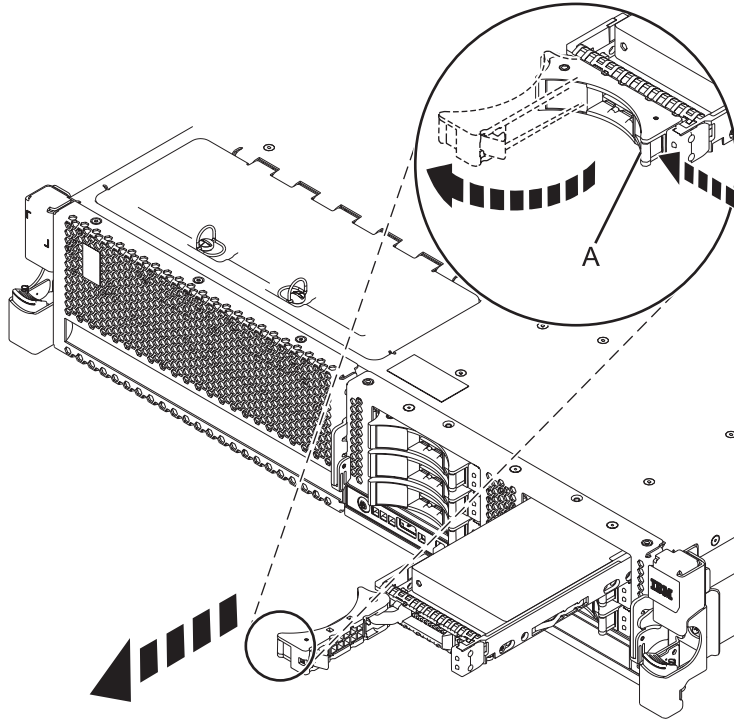

Figure 39. Removing a disk drive from the system
1. Unlock the disk drive or solid-state drive handle by squeezing it and pulling it out toward you, as shown in Figure 39 on page 59.